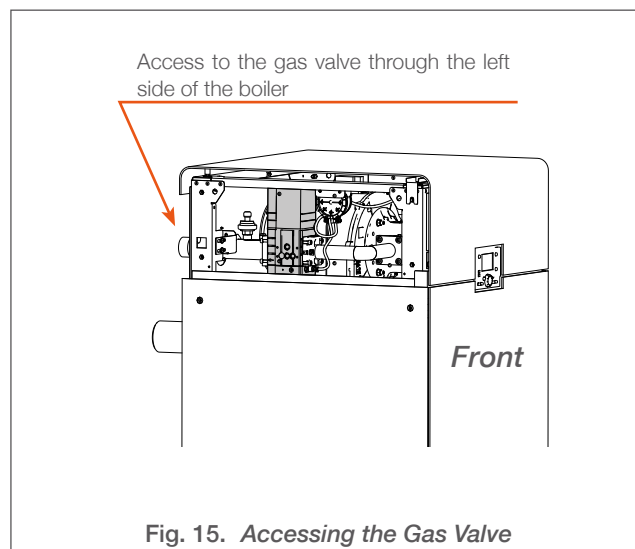

Fig. 15. Accessing the Gas Valve
1. Remove the left side panel. See **Fig. 15** below and refer to **“Removing and Installing the Access Panels”** on page I-29.